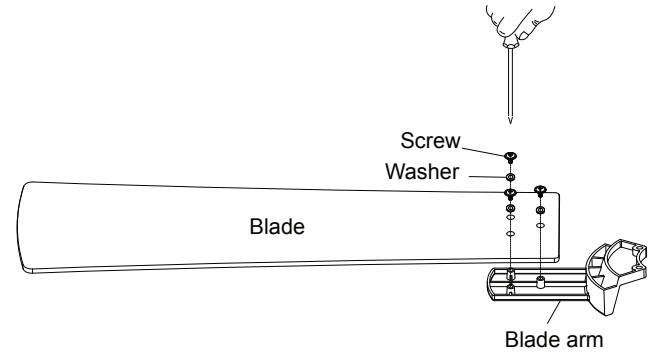

Fig. 16
Step 1. Align the holes from the blade and washer to the holes from the blade arms, and secure the blade in place with screws provided. (Fig. 16)